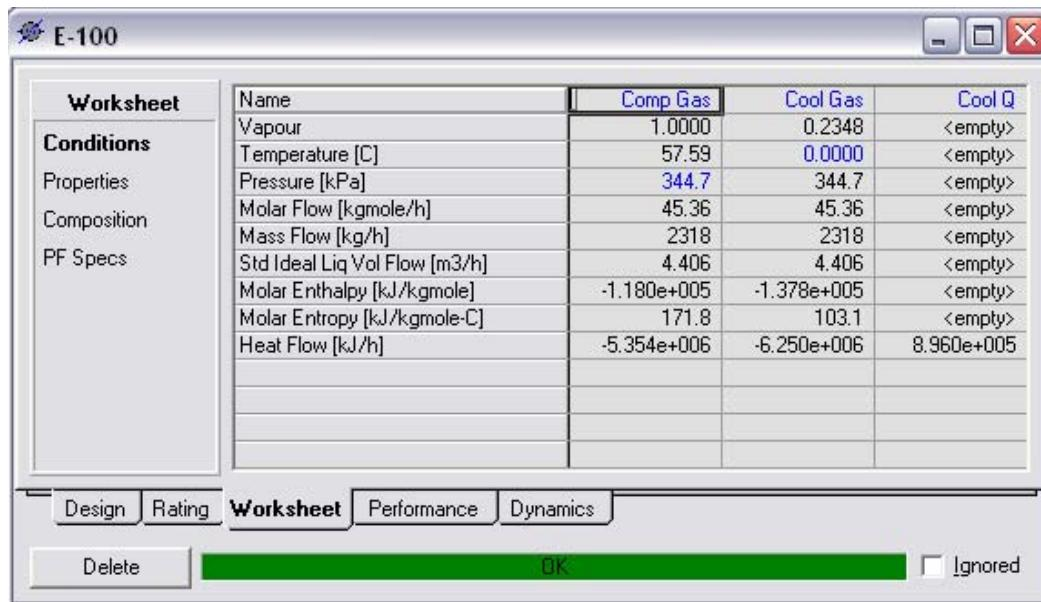

Figure 7-5
4. Go to the **Worksheet** tab. At the **Conditions** page, complete the page as shown in the Figure 7-5. The temperature for the Cool Gas is 32°F.